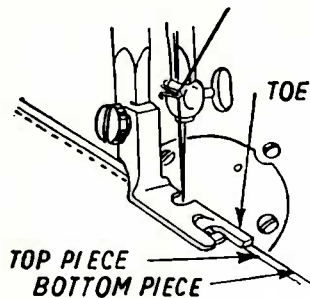

Fig. 35
1. Lay two pieces of cloth one on top of the other with their RIGHT sides facing each other. The right edge of the bottom piece must extend about 1/8 inch beyond the right edge of the top piece. See (Fig. 35.)
2. Sew both pieces of cloth together, use the right edge of long toe of hemmer foot to guide the bottom piece of material, while the left edge of the same toe serves as a guide for the top piece of material. (Fig. 35.)